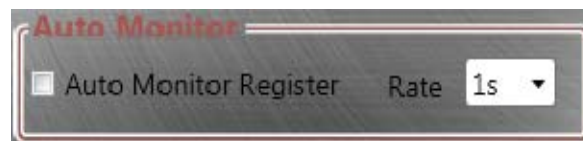

Figure 10: Resistor Auto-Monitor
- The resistor auto-monitor can also be set using this program (see Figure 10).